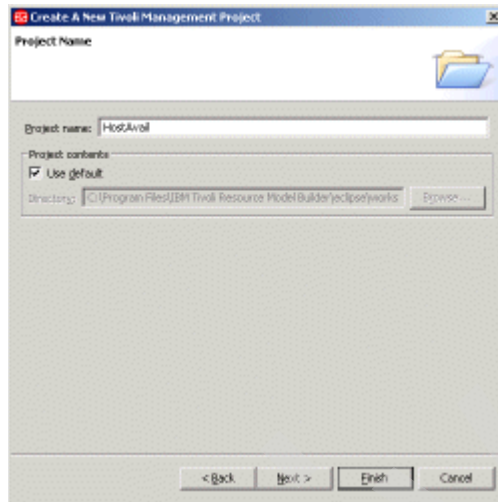

Figure 9-36 Create A New Tivoli Management Project: Project Name window
6. In the window that displays, enter HostAvail in the Project name text field as shown in Figure 9-36.